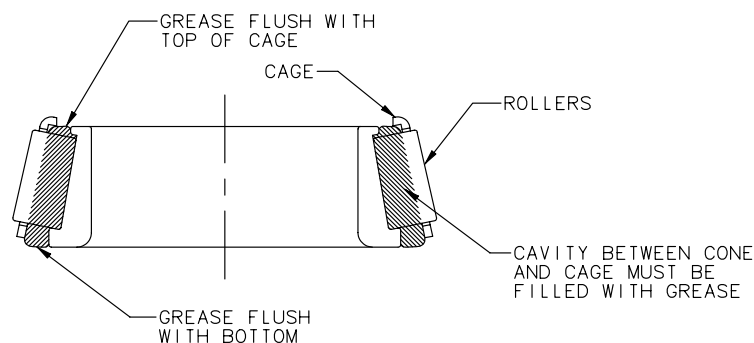

Figure 1, Packing Bearing Cones
- c. Force the grease up between rollers, cone and cage, making sure that all voids inside the cone are filled (see Figure 1). Also, make sure that a generous amount of grease is applied to the roller surfaces on the outside of the cone.